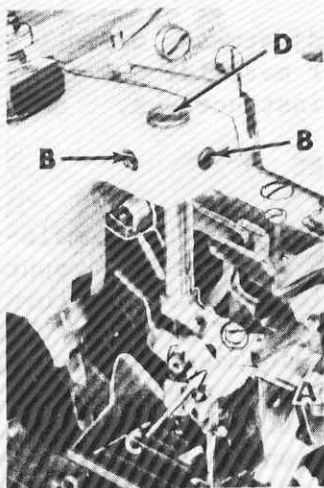
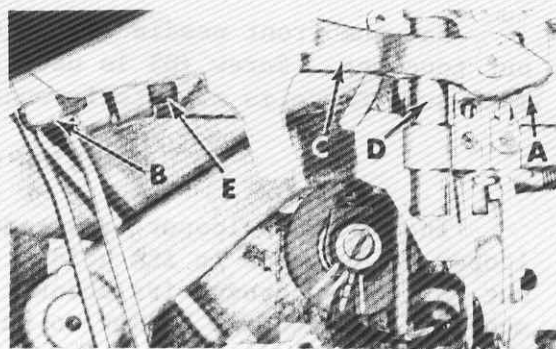
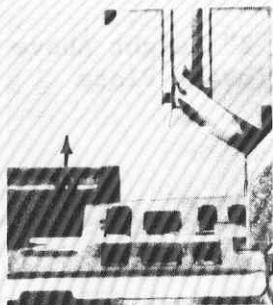

Fig. 5
Fig. 6
Fig. 7
loosening set screws (B, Fig. 5) and binder screw (B, Fig. 6) in needle drive lever (C, Figs. 5 and 6); then simultaneously turning needle head guide bar (D) which is an eccentric and sliding the needle drive lever (C) to the left or right on needle rock shaft as required to alleviate bind.
With throat plate assembled in position, the needles should center in the throat plate needle slots (left to right). The needle head (A, Figs. 5 and 6) can be repositioned by loosening set screws (B, Fig. 5) and binder screw (B, Fig. 6) in needle drive lever (C, Figs. 5 and 6); then simultaneously turning needle head guide bar (D) which is an eccentric and sliding the needle drive lever (C) to the left or right on needle rock shaft as required to alleviate bind.
When proper left to right needle position is obtained, tighten set screws (B, Fig. 5) securely and tighten screw (B, Fig. 6) lightly. Needle drive lever (C, Figs. 5 and 6) must also be positioned to set height of needles above throat plate which should be $\frac{7}{16}$ inch (11.11 mm) on Styles 39800 AA and AB; $\frac{17}{32}$ inch (13.49 mm) on Styles 39800 AP, AQ, AX and AY with needles at top of stroke (W, Fig. 7). Tap the needle drive lever (C, Figs. 5 and 6) lightly up or down to obtain desired needle height, then tighten screw (B, Fig. 6) securely.